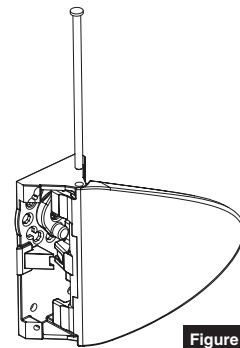

Figure 24
12. Attach paddle to chassis by aligning paddle as shown then insert axle through pivot hole in chassis. (Figure 24)